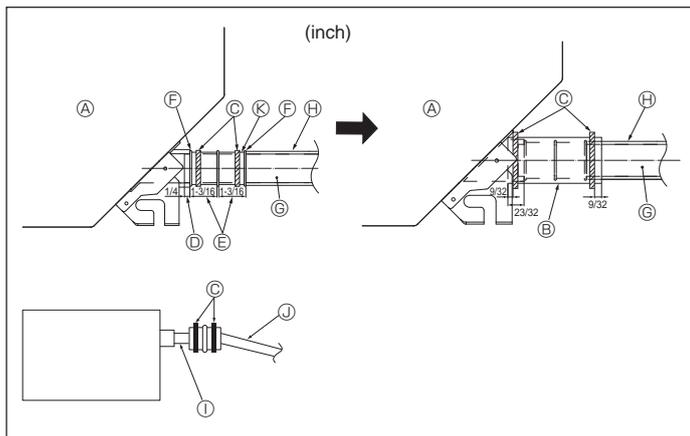

Fig. 4-2
1. Connect the drain socket (supplied with the unit) to the drain port. (Fig. 4-2)